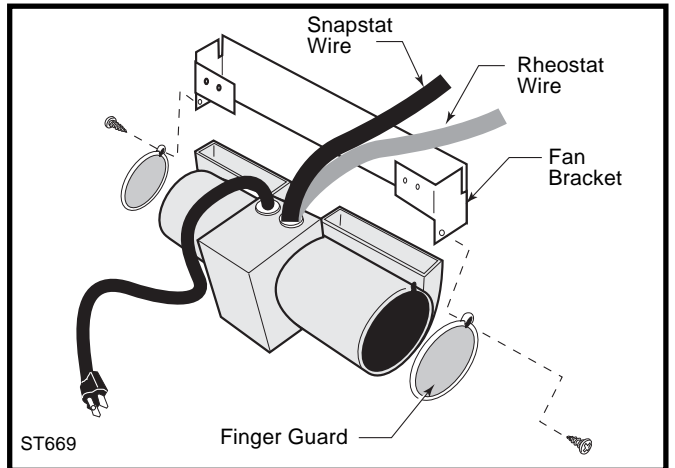

Fig. 16 Attach the fan assembly to the fan bracket.
5. Attach the fan assembly to the bracket provided in the finish bag. Remove the sheet metal screws that secure the finger guards at each end of the fan housing. Use these screws to attach the fan to the bracket. (Fig. 16)